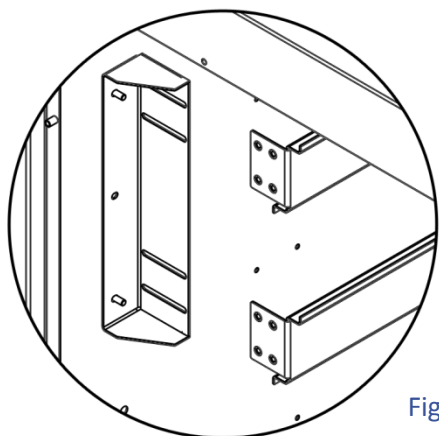

Figure 9
- To Raise: Loosen the screws and raise the interior bracket forwards and fasten to decrease the distance from the LCD screen and the window (Figure9).